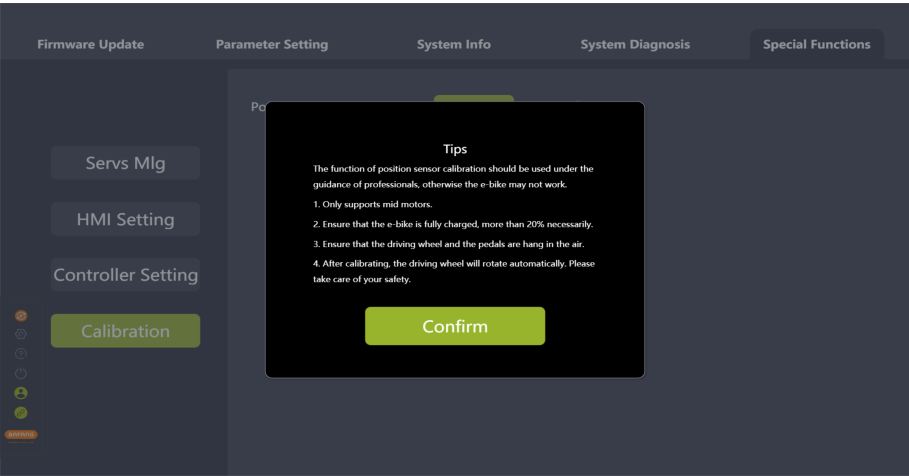

Fig 8-9 Tips
3. There is an icon to the right of "Position Sensor Calibration" and click it to view the tips (Figure 8-9).